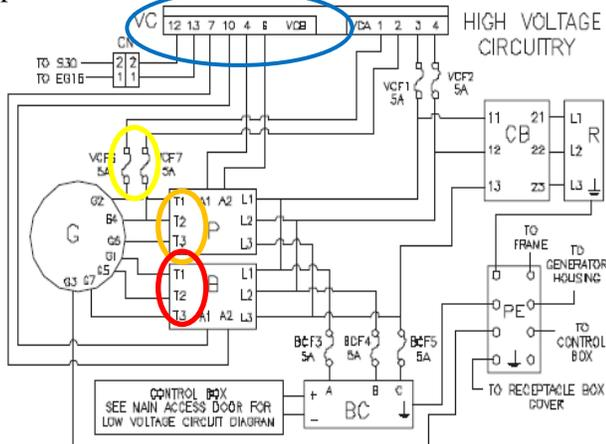

Figure 1
1. Disconnect the output plug on the voltage controller (identified in blue, Figure 1).
3. For the primary winding, measure primary phase voltages between the generator wires at the primary contactor (identified in orange, Figures 1 & 2):
4. For the boost winding, measure boost phase voltages between the generator wires at the boost contactor (identified in red, Figures 1 & 2):
2. Open the fuses VCF6 and VCF7 at the fuse block (circled in yellow, Figures 1 & 2).
3. For the primary winding, check the resistances between the generator wires (listed below) at the primary contactor (identified in orange, Figures 1 & 2):
4. For the boost winding, check the resistances between the generator wires at the boost contactor (identified in red, figures 1 & 2):
2. Open up all fuses (VCF1, VCF2, BCF3, BCF4, BCF5, VCF6 and VCF7) at the fuse block (identified in yellow, Figures 1 & 2).
4. To perform this test, connect the first lead of the megger meter to the ground plate and attach, distinctly every time, the second lead of the megger meter to each lead of the generator at the primary and boost contactors T1, T2, and T3 (identified in yellow and orange, Figures 1 & 2).